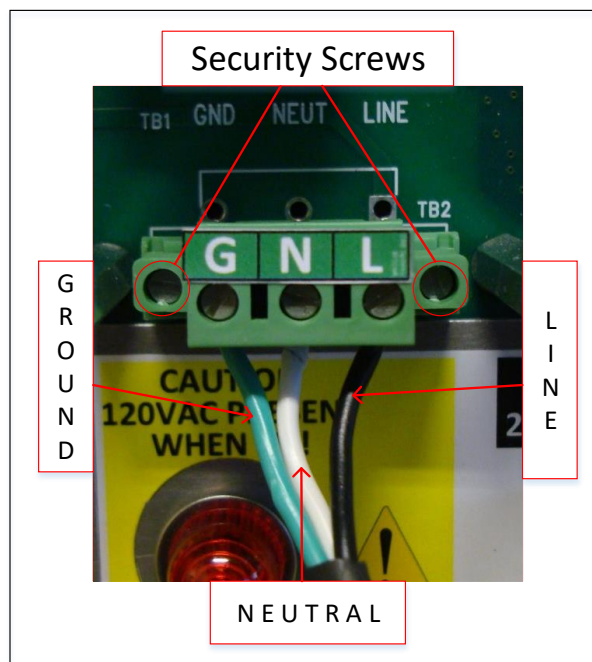

Figure 31. Line - Neutral - Ground Connections
3. Remove the 3-pin Phoenix block from the power module by loosening the two security screws on the sides of the connector. Secure the Line (black), Neutral (white) and Ground (green) wires to the appropriate terminal screws. (See Figure 31.)